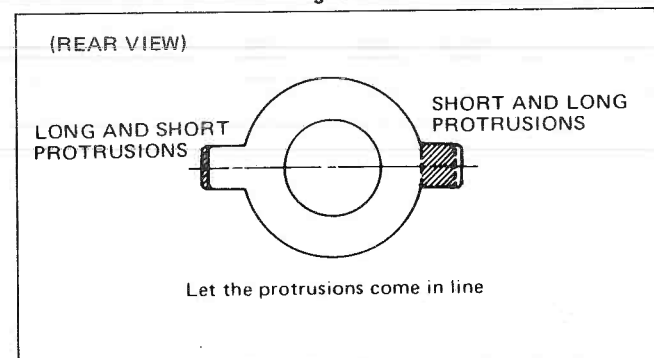

Fig. B-2
2. Let the purity tabs come in line horizontally as is shown in Fig. B-2. A long tab should be in the same direction as the other short tab.